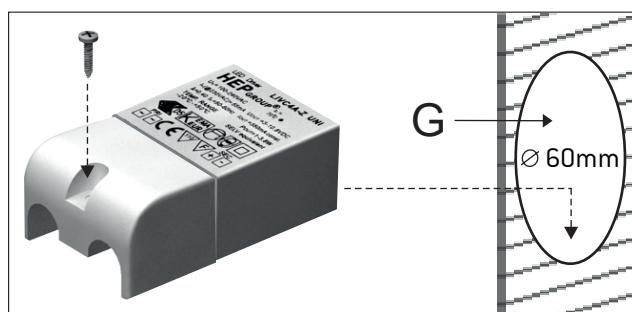

Figure 3
- 3 - Attach again the cover to the driver. Ensure that the hole in the wall (G) measures a minimum of Ø 60mm and leave the driver inside the hole. Figure 3.